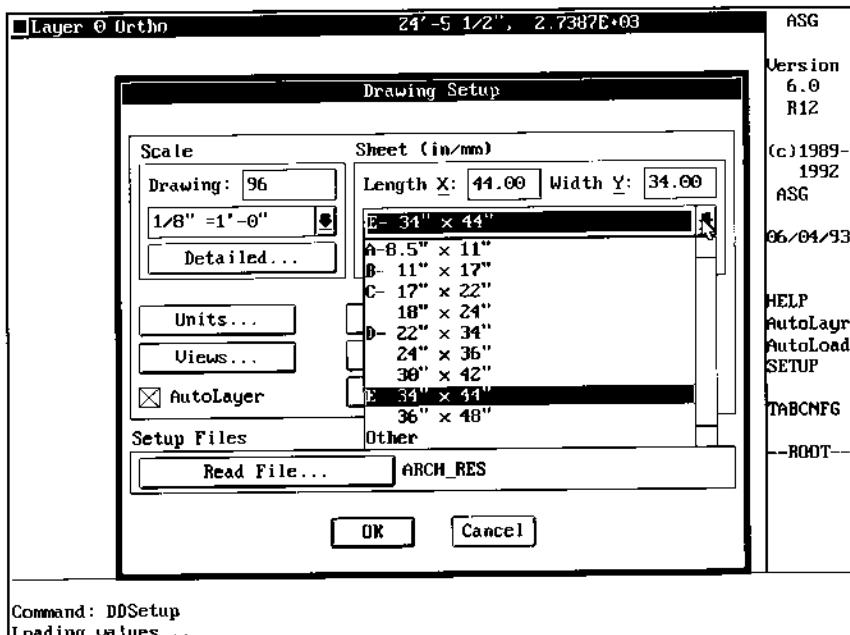

Figure 8.
12. Enter specifications for an E-sheet size with length 44.00 and width 34.00 in the Length X: and Width Y: Sheet section boxes as shown in Figure 8.